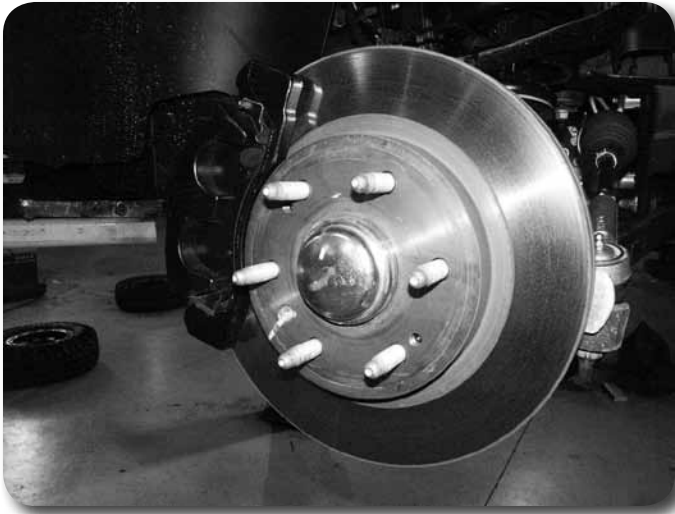

Figure 4
9. Remove the hub dust cap **Figure 4**. Remove the axle shaft nut. Retain nut and cap.